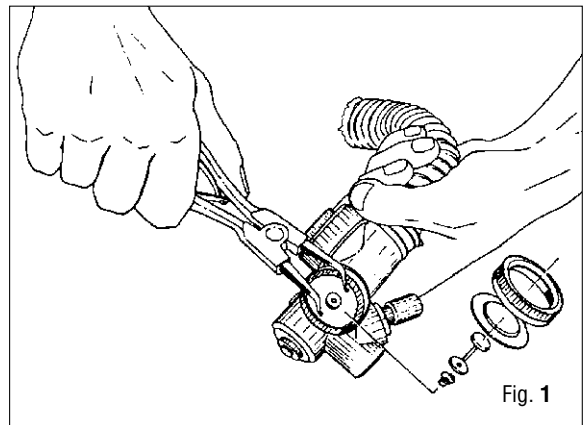

Fig. 1
1. Unscrew the locking ring (14), and remove from the inflator body (1) the diaphragm (15) with the pin (16) and washer (17) inside.
2. Remove the spring (18).
3. With the help of a caliper tool (or snap ring pliers), unscrew the servo control cap (18). (Fig. 1)
4. Remove the 4-hole rubber disk (19), the disk clamp ring (20) and the servo control disk (21) from the seat in the servo control cap (18).